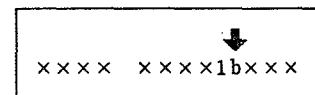

Fig. 6-43 Adjusting the Sensor Position
13. Rotate the timing pulley (L) manually and set the reel motor so that the amount of the limiter compression (C_s or C_t , whichever is smaller) is between 0.5 and 1.0 mm in the position for the M cassette.
14. Loosen the screw that holds the sensor M. Move the sensor M and stop it when the indication "a" on the control panel shown in the upper drawing of Figure 6-43 changes from 0 to 1. Fasten the sensor M securely at that position.
15. Rotate the timing pulley (L) manually and set the reel motor so that the amount of the limiter compression (C_s or C_t , whichever is smaller) is between 0.5 and 1.0 mm in the position for the L cassette.
16. Loosen the screw that holds the sensor L. Move the sensor L and stop it when the indication "b" on the control panel shown in the lower drawing of Figure 6-43 changes from 1 to 0. Fasten the sensor L securely at that position.